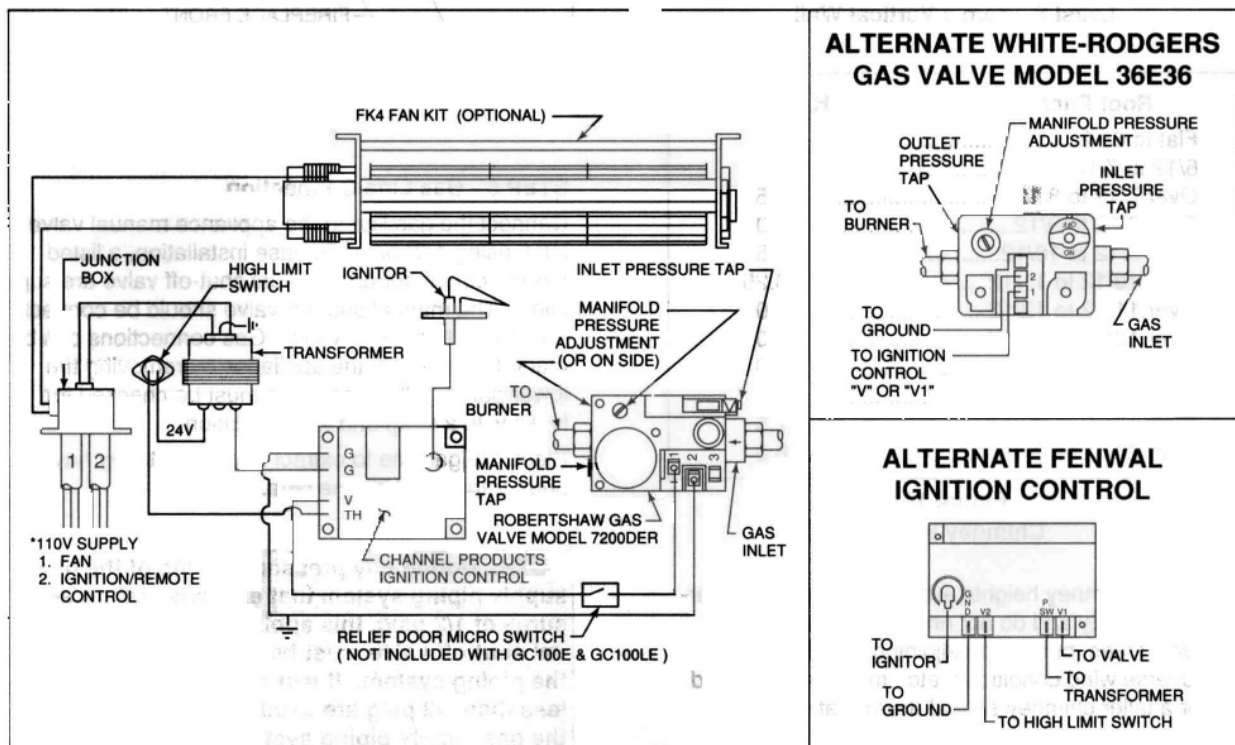

Figure 19
1. Appliance Requirements. This appliance requires a 110V power supply from a remote wall switch to the appliance junction box for operation. A wiring diagram is shown in Figure 19.
Optional accessories may be added now or at a later date, however, wiring should be done now to avoid significant wall reconstruction. The optional fan kit (FK4) requires a separate 110V power supply to the appliance junction box for operation, as shown in Figure 19, #2. No additional power supplies are required for the fan motor speed control (BC10) or the remote control (RC5). Wiring diagrams are provided with all accessories.